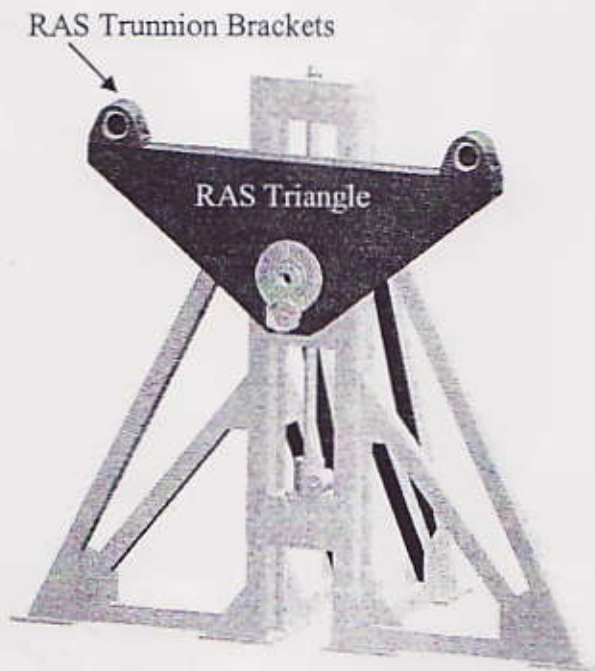

Figure 2. RAS (side 1 of 2 identical)
4. Loosen / break the initial torque on all (n.16) the M20 shear bolts fixing the RAS trunnion brackets to the RAS triangle. (Brackets in orange in Figure 2)